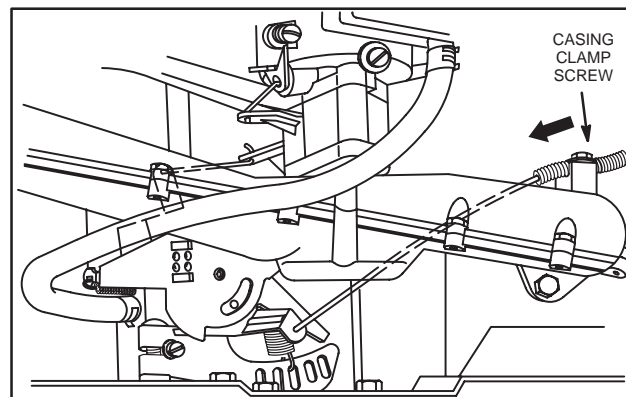

Fig. 8 – Remote Control Adjustment – Pre-Twin II
3. Move control casing and wire in direction shown by arrow, Fig. 8.